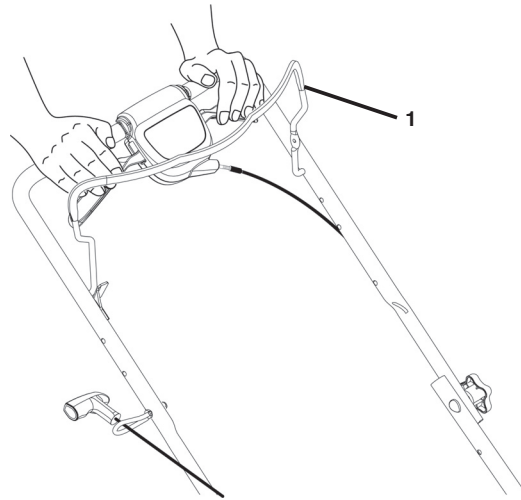

Figure 15
1. To stop engine, release operator presence control bar (Figure 15).